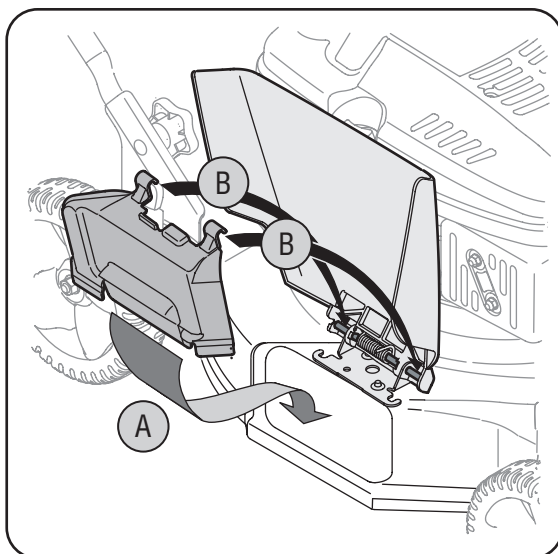

Figure 3-7
- a. Lift up and hold the side-discharge chute deflector and insert bottom lip of the mulching baffle inside the chute opening See Figure 3-7.